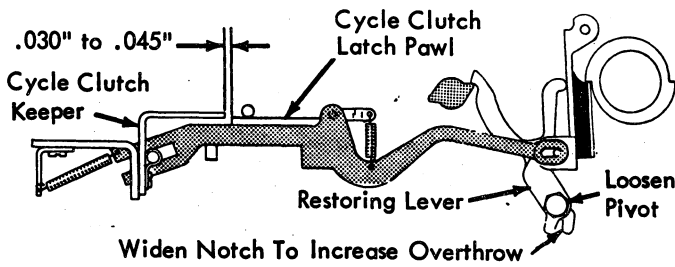

FIGURE 7. Cycle Clutch Latch Restoring Adjustment
- b. **Early Style - Adjust the restoring lever so that the latch pawl overthrows the keeper by .030" to .045"** (Fig. 7).